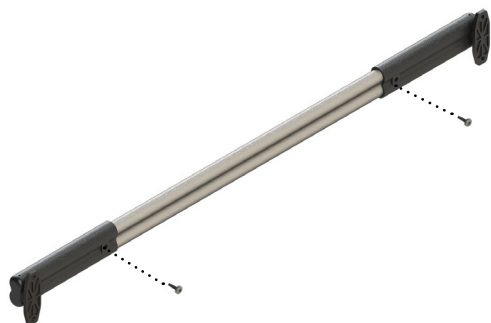

Fig.22
7. Slide the sleeves onto each end of the push bar to the new marks and, using the supplied screws, fasten the sleeves to the push bar. (Fig.22).